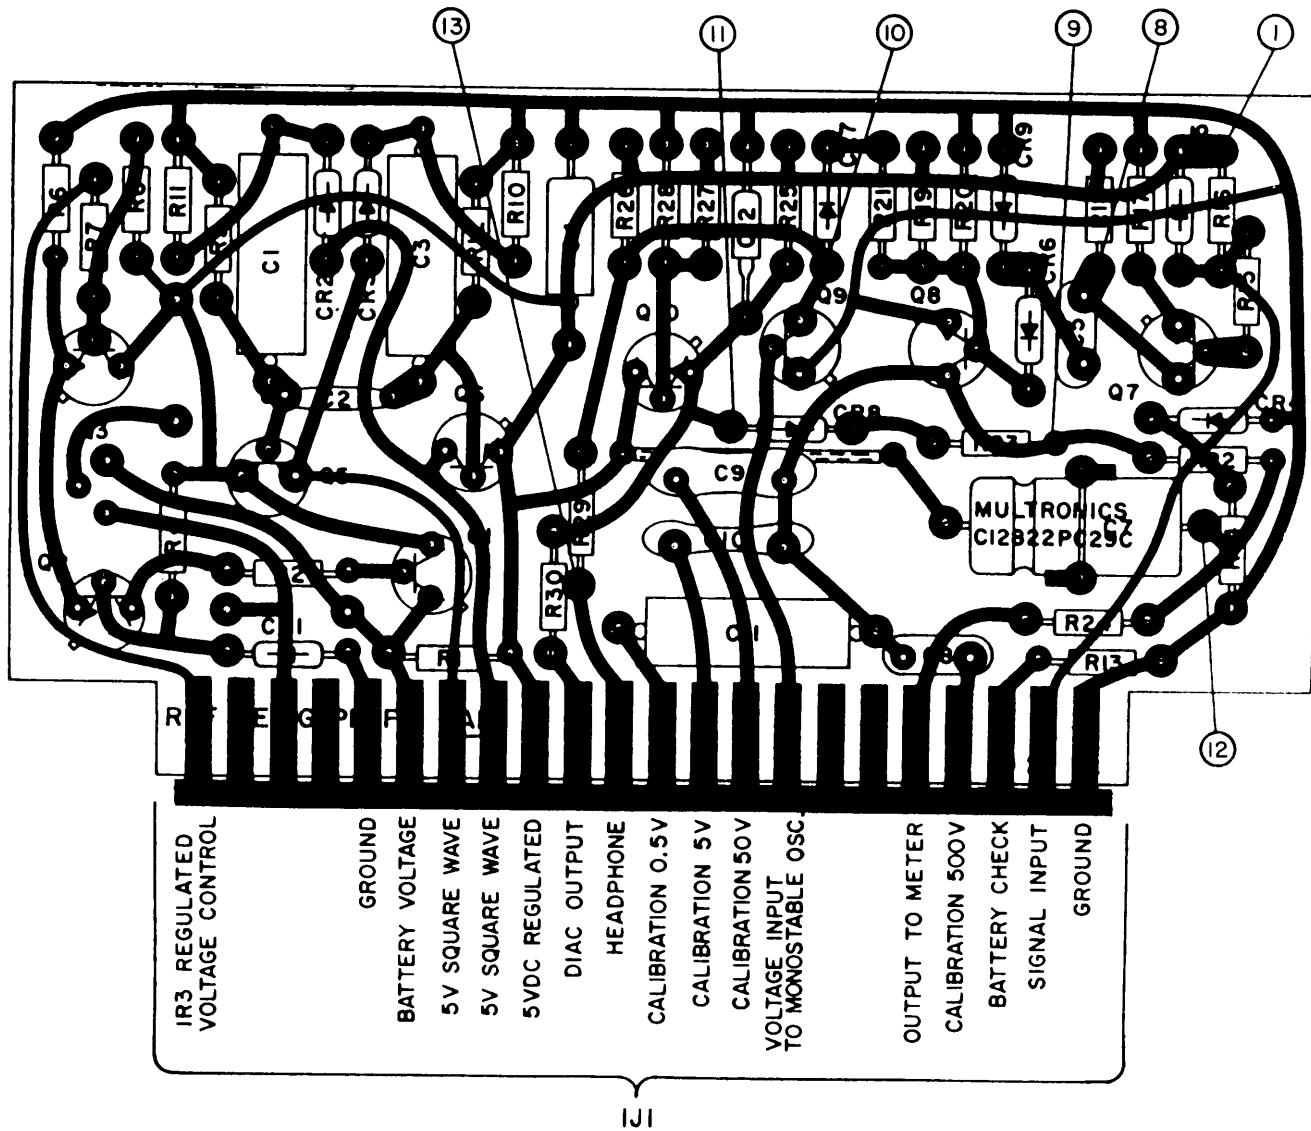
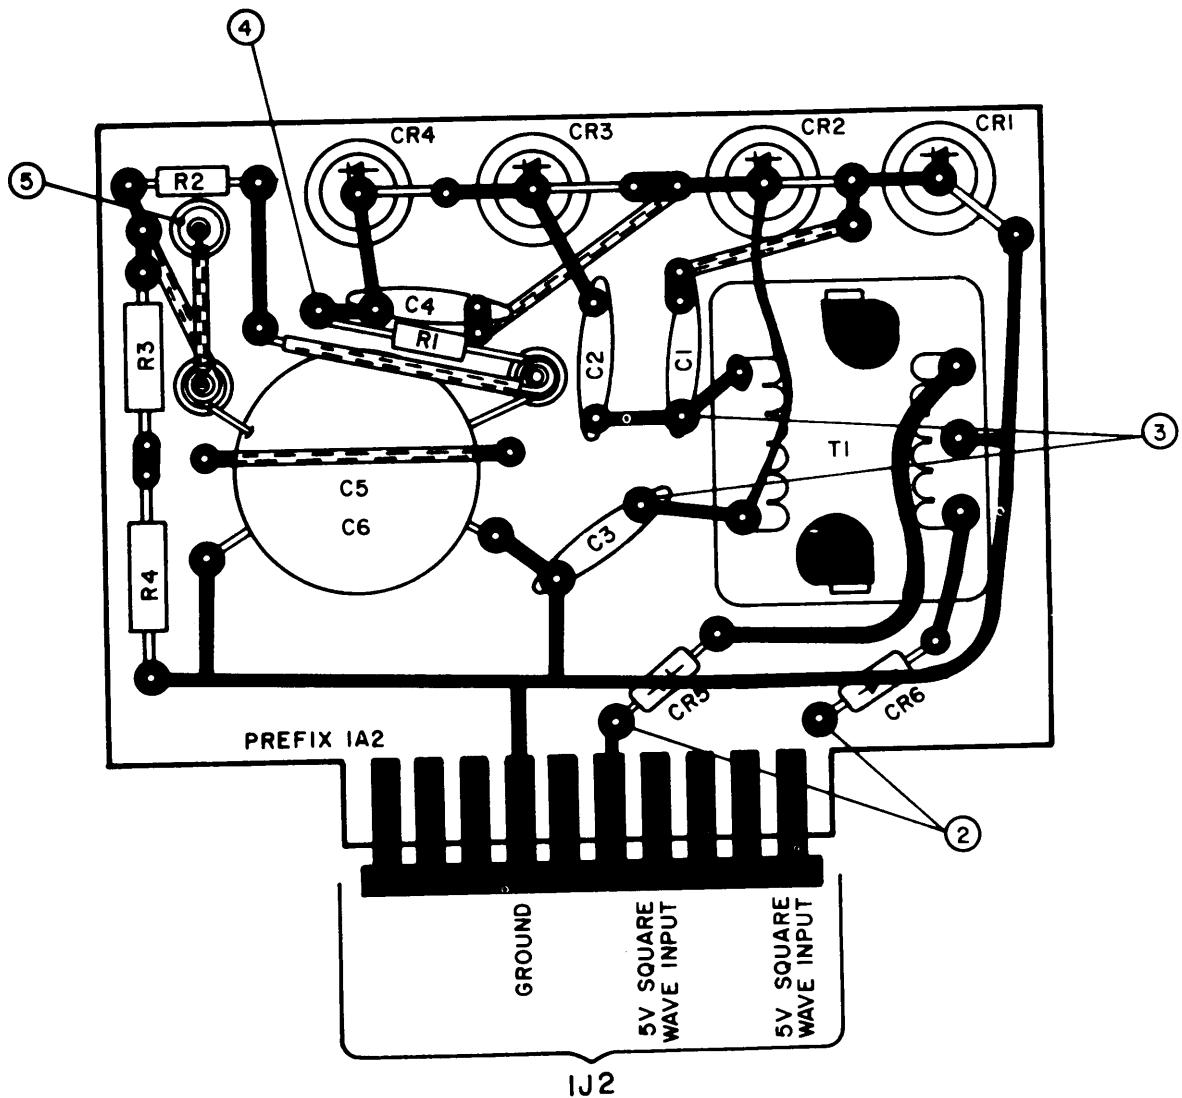

Figure 2-1. Low Voltage Assembly, 1A1, Component and Test Point Locations.
Figure 2-2. High Voltage Assembly 1A2, Component and Test Point Locations.
- (1) *Operation.* An operational test can help pinpoint trouble quickly (TM 11-6665-230-12).
- (2) Use of the *troubleshooting table.* The troubleshooting table, table 2-1, lists common symptoms, troubles, and corrective measures. Not all trouble symptoms are listed in the table, so use it as a guide for analyzing symptoms not listed.
- (3) *Test point data.* See figure 2-1, figure 2-2, and figure FO-1. Use with the troubleshooting chart to isolate defective parts.
- (4) *Removing and replacing parts.* Refer to TM 11-6665-230-40P.